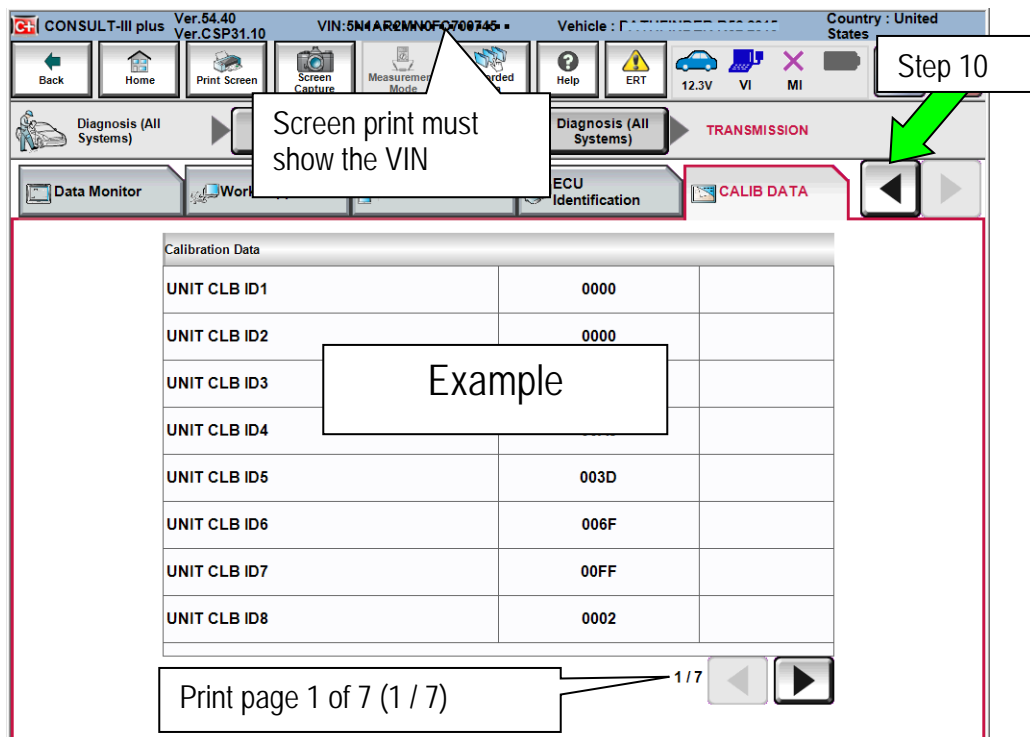

Figure 3
9. Print a copy of the screen shown in Figure 3 and attach it to the repair order.
10. Select scroll arrow shown Figure 3.